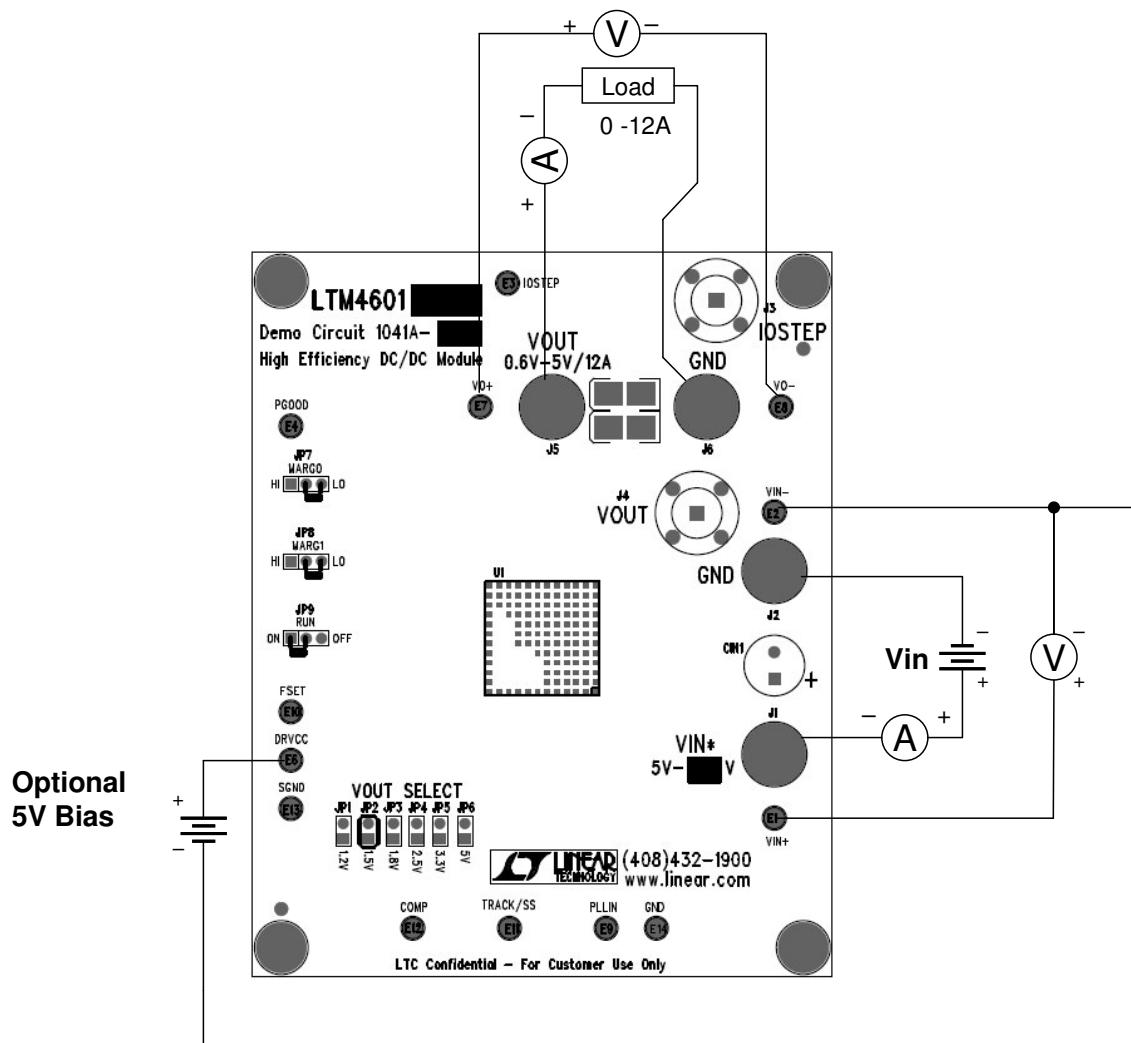

Figure 1. Test Setup of DC1041A-A (DRVCC Bias Supply is Optional)
Demonstration circuit DC1041A-A is easy to set up to evaluate the performance of the LTM4601EV. Please refer to Figure 1 for proper measurement equipment setup and follow the procedure below:
2. With power off, connect the input power supply, load and meters as shown in Figure 1.